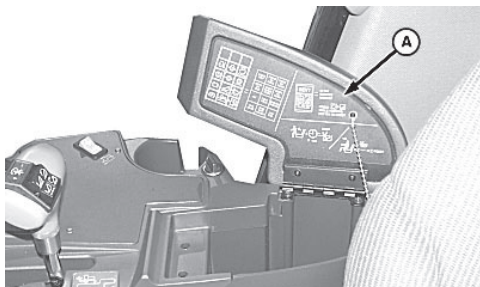

Figure 75. Storage
NOTE: Operator presence and resetting baler information is on the decal (A) under the lid of the right-hand armrest (see Figure 75).